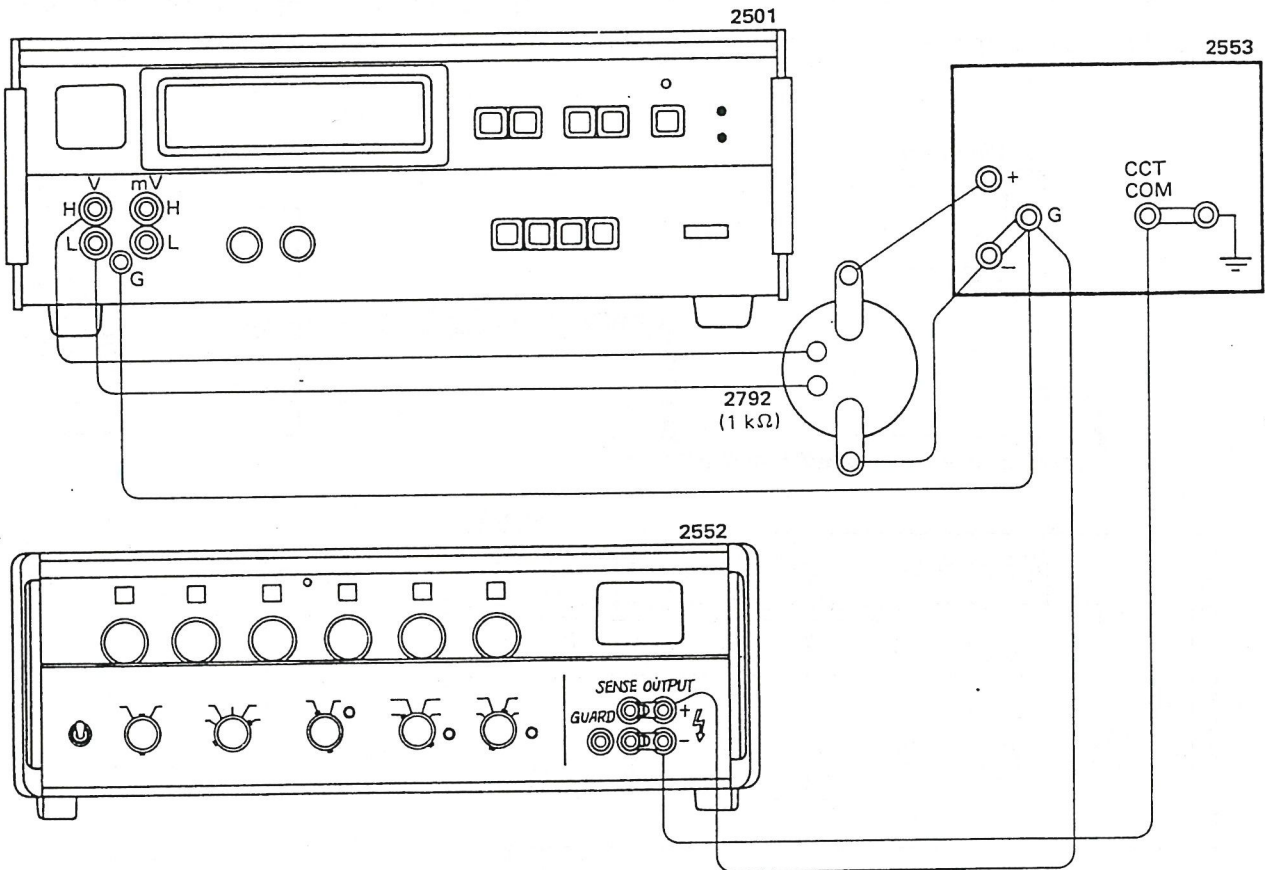

Figure 2-10. Setup for DC CMRR Inspection as Current Standard.
- a) Connect this instrument, Type 2501, Type 2792 (1 k Ω) and Type 2552 as shown in Figure 2-10.